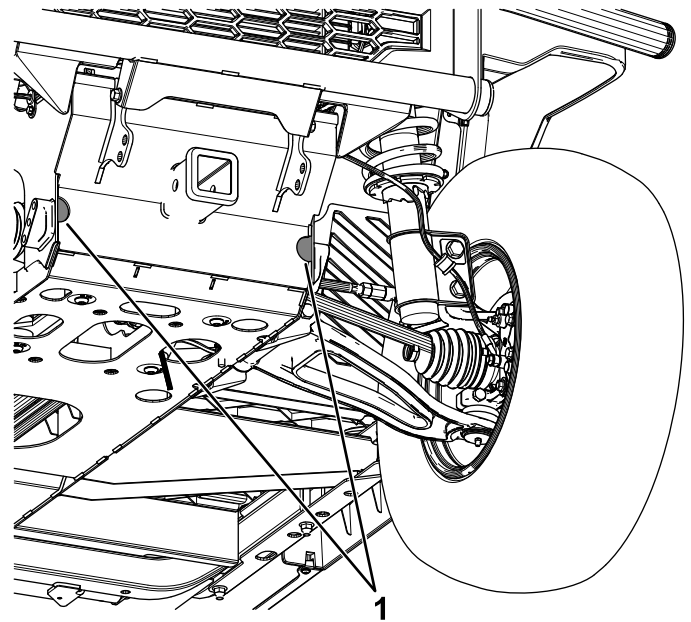
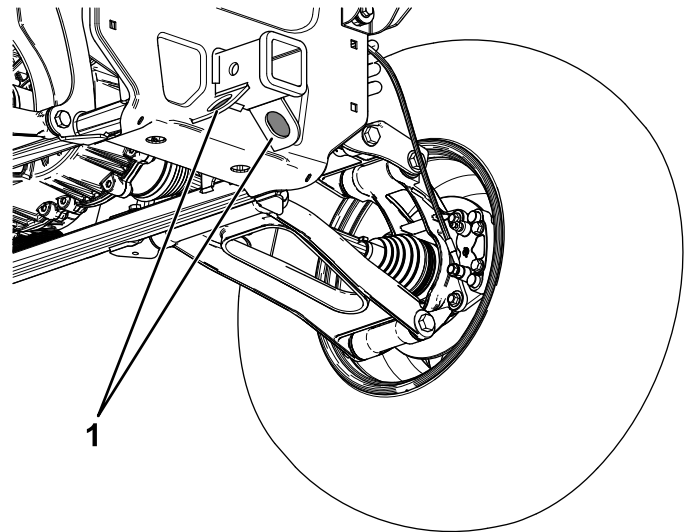

Figure 56
Figure 57
Refer to Figure 56 and Figure 57 for the tie-down locations on the machine.
1. Affix a tow line to the tongue at the front of the frame of the machine (Figure 56).